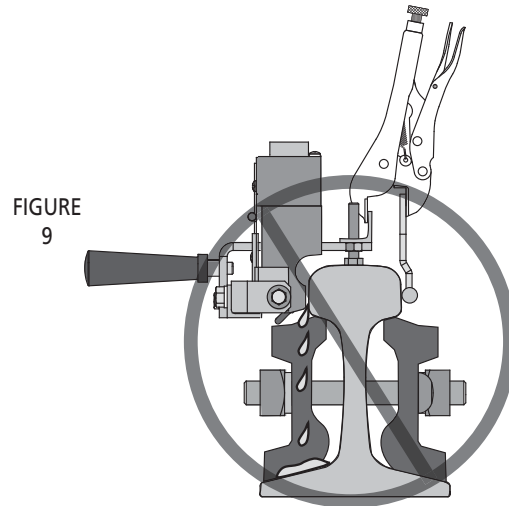

FIGURE 9
**WARNING:** Correctly positioning the mold against the rail with the welder device is critical for safety and success in making a bond. There must be no gaps between the lower part of the mold that contains the weld cavity and the rail surface; if a gap is present, the mold should be discarded and a new one used. **See Figure 9.** (Molds can generally be used for up to 50 welds.) The exothermic reaction reaches a temperature in